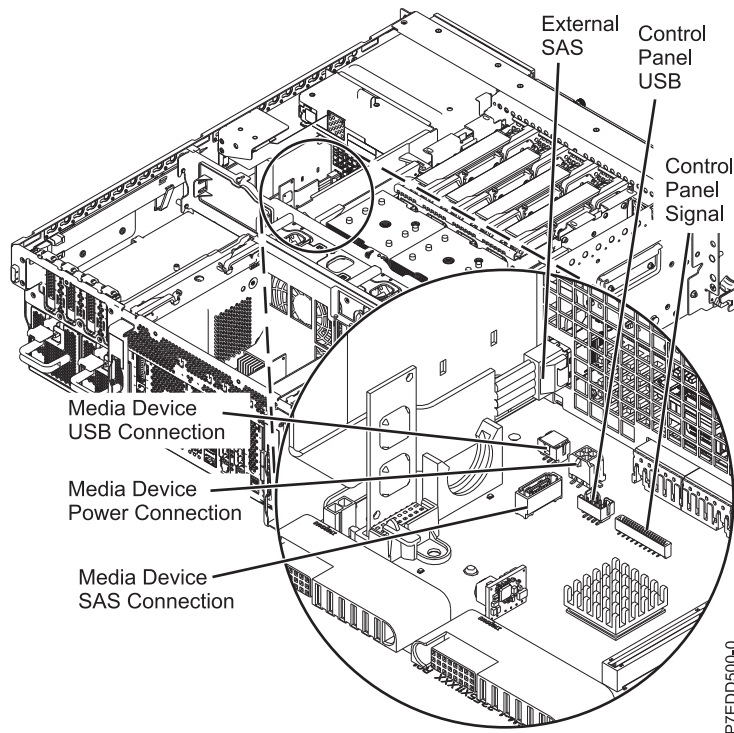

Figure 1. Disconnecting the internal cables
20. Disconnect the internal cables from the backplane and remove the SPCN cable from the rear of the chassis. See Figure 1.